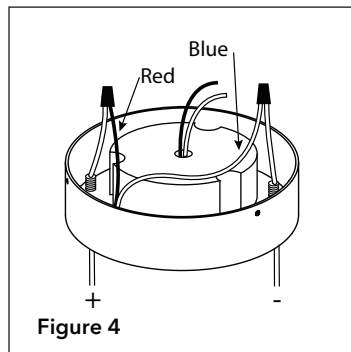

Figure 4
Step 4. Thread cables from luminaire through canopy as shown. Connect red output wire from driver to positive cable and blue output wire from driver to negative cable (Fig. 4).